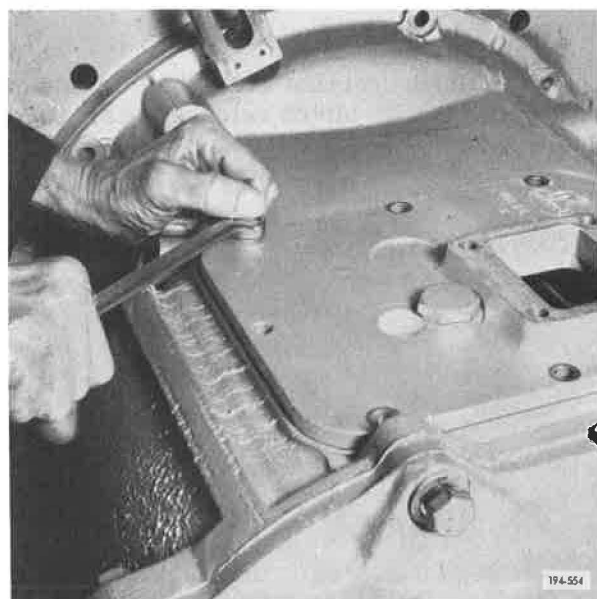

Figure 5-230. Removing Capscrew
8. Remove front case top cover capscrews. See Figure 5-230.